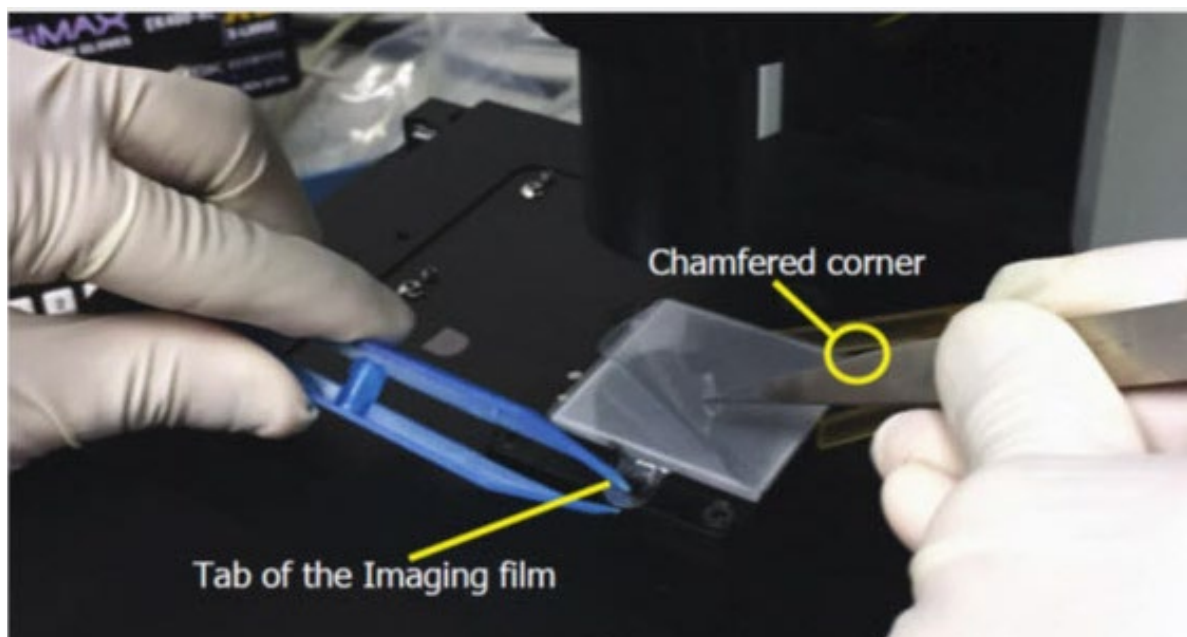

Figure 18. Seating the chip on the microscope holding platform.
8. Place the chip on the microscope Holding Platform with the chamfered (notched) corner facing the upper right corner (Figure 18, below). **Ensure that the chip is sitting flat on the chuck from all sides and is in the correct orientation.**
9. Ensure the chip is perfectly flat and seated square relative to the pins before removing the second release liner. Peel off the top layer release liner of the imaging film using tweezers (Figure 18, above). **Save the release liner.** The chip will remain sealed by the double-sided intermediate film layer.